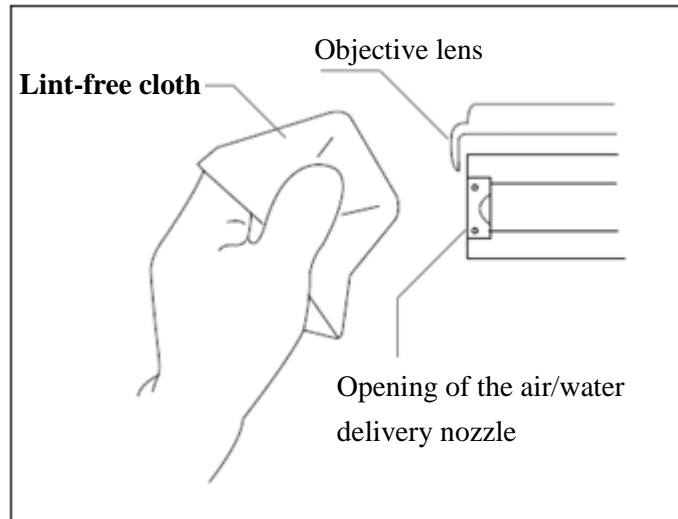

Figure 7.11
2. In the detergent solution, thoroughly scrub or wipe the entire outer surface of the endoscope with a soft-bristled brush or lint-free cloth. Special attention shall be paid to the opening of the air/water delivery nozzle and the objective lens, and ensure that all surfaces of the tip have been thoroughly cleaned (as shown in Figure 7.11).